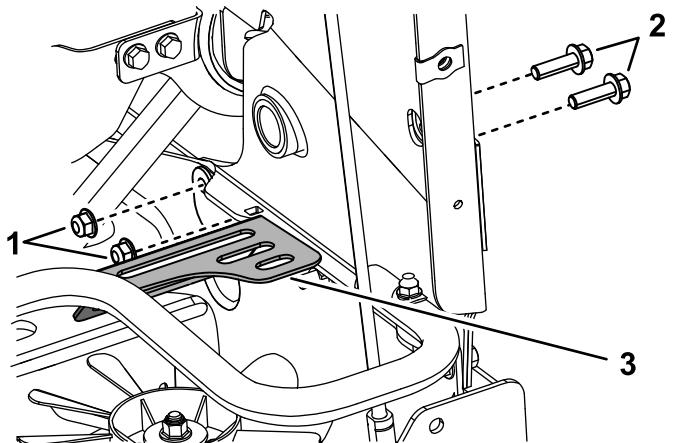

Figure 30
15. Remove the 2 bolts and 2 nuts from the right side of the machine and use them to install fan guard (Figure 30). Torque the bolts to 37 to 45 N·m (27 to 33 ft-lb).